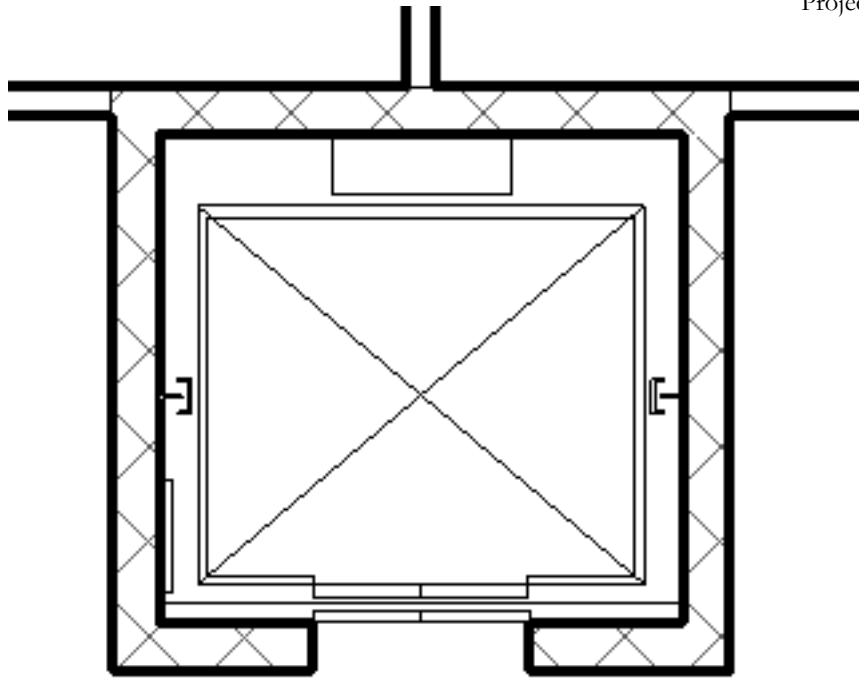

FIGURE 3-4.10 Elevator door added to plan
19. Move your cursor within the elevator shaft and adjust it until the elevator “snaps” in place; then click (Figure 3-4.10).
23. Place the elevator door at the center of the wall, aligned with the elevator door on the cab (Figure 3-4.10).